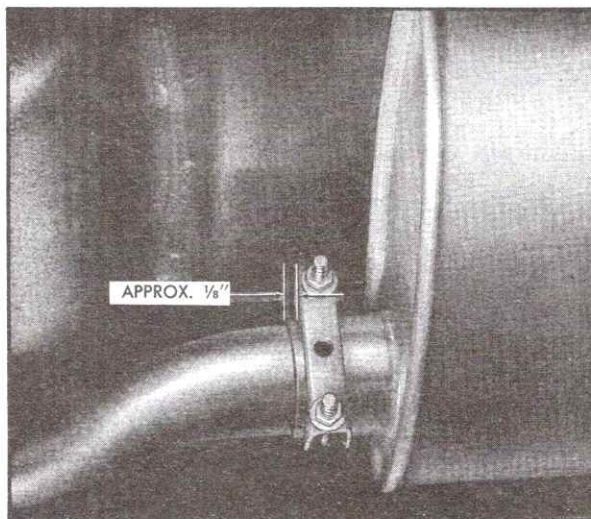

Fig. 8-4 Resonator Outlet Pipe Clamp at Muffler
3. Install U-bolt and clamp loosely at front of muffler. Position clamp so there is approximately 1/8 inch between saddle of clamp and edge of muffler pipe, Fig. 8-4.
5. Position clamp between resonator outlet pipe and muffler so there is approximately 1/8 inch between edge of resonator outlet pipe and saddle of clamp, Fig. 8-4. Tighten clamp just enough to prevent separation. Then check alignment of remainder of exhaust system.